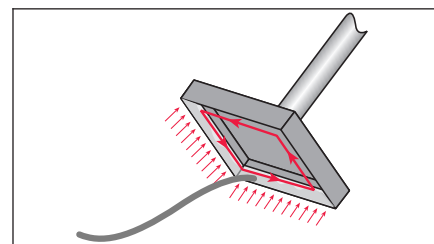

Figure 2 Tin Tip
7. Tin the tip generously around the entire inside working surface. (See Figure 2.)